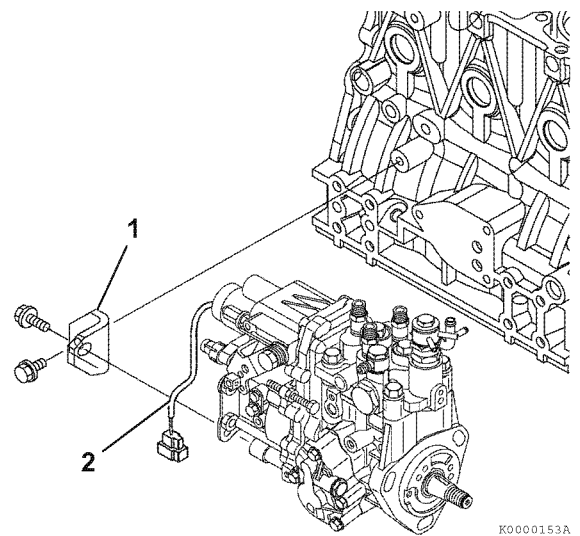

Figure 7-11
- Separate the stop solenoid wiring connector (2, **Figure 7-11**).
- Remove the rear fuel injection pump bracket(s) (1, **Figure 7-11**) from the fuel injection pump.